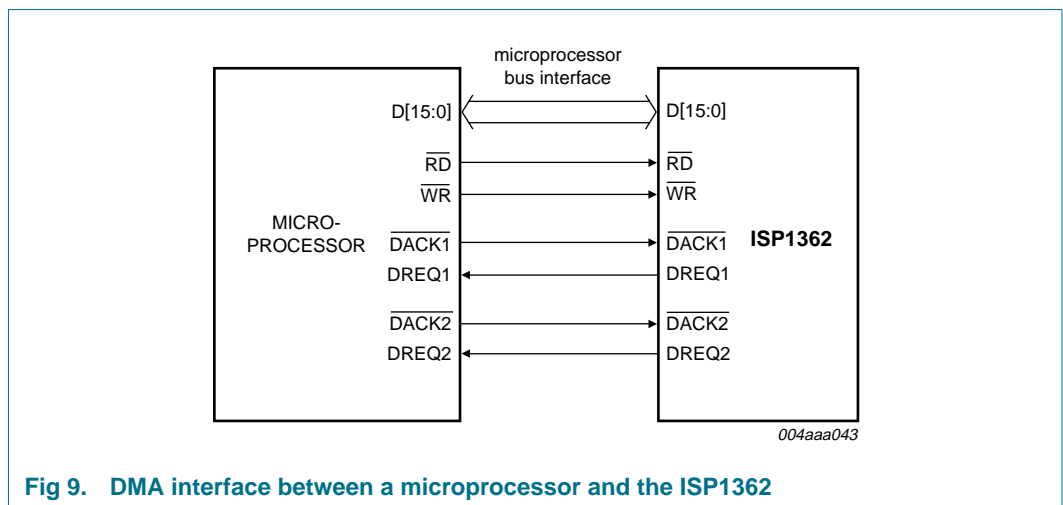

Fig 9. DMA interface between a microprocessor and the ISP1362
**Remark:** The DMA operation must be controlled by the DMA controller of the external microprocessor system (master). Figure 9 shows the DMA interface between a microprocessor system and the ISP1362.